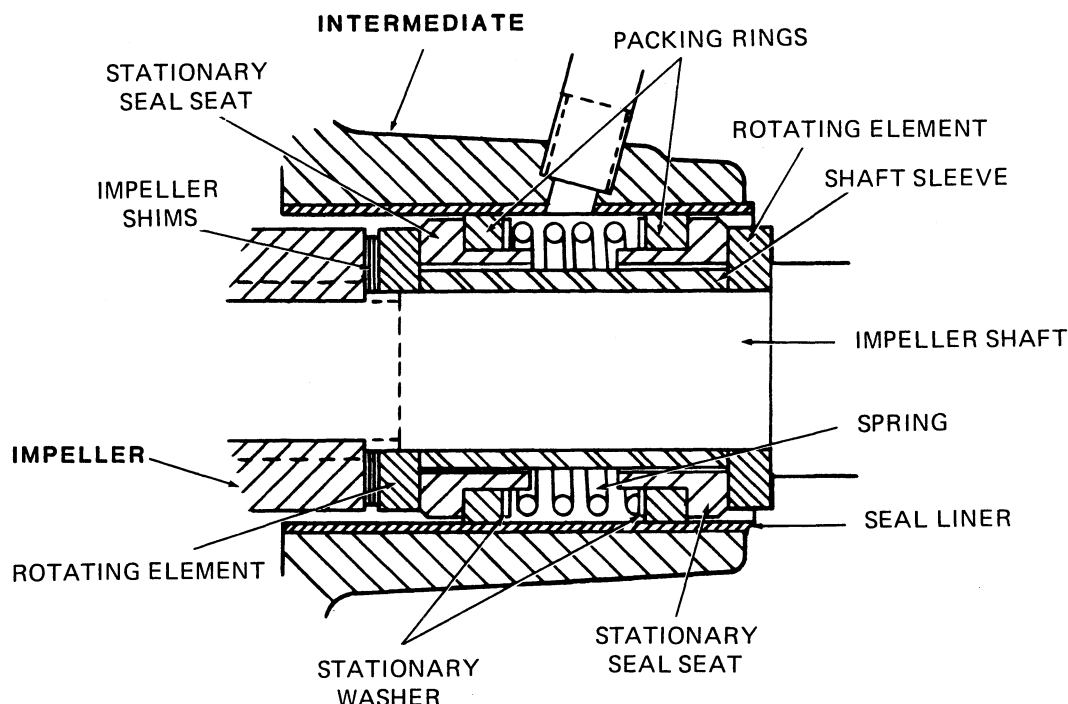

Figure 3. GS1000 Seal Assembly
To ease installation of the seal, lubricate the packing rings and seal liner (16) with water or a very **small** amount of oil, and apply a drop of light lubricating oil on the finished faces. Assemble the seal as follows, (see Figure 3).